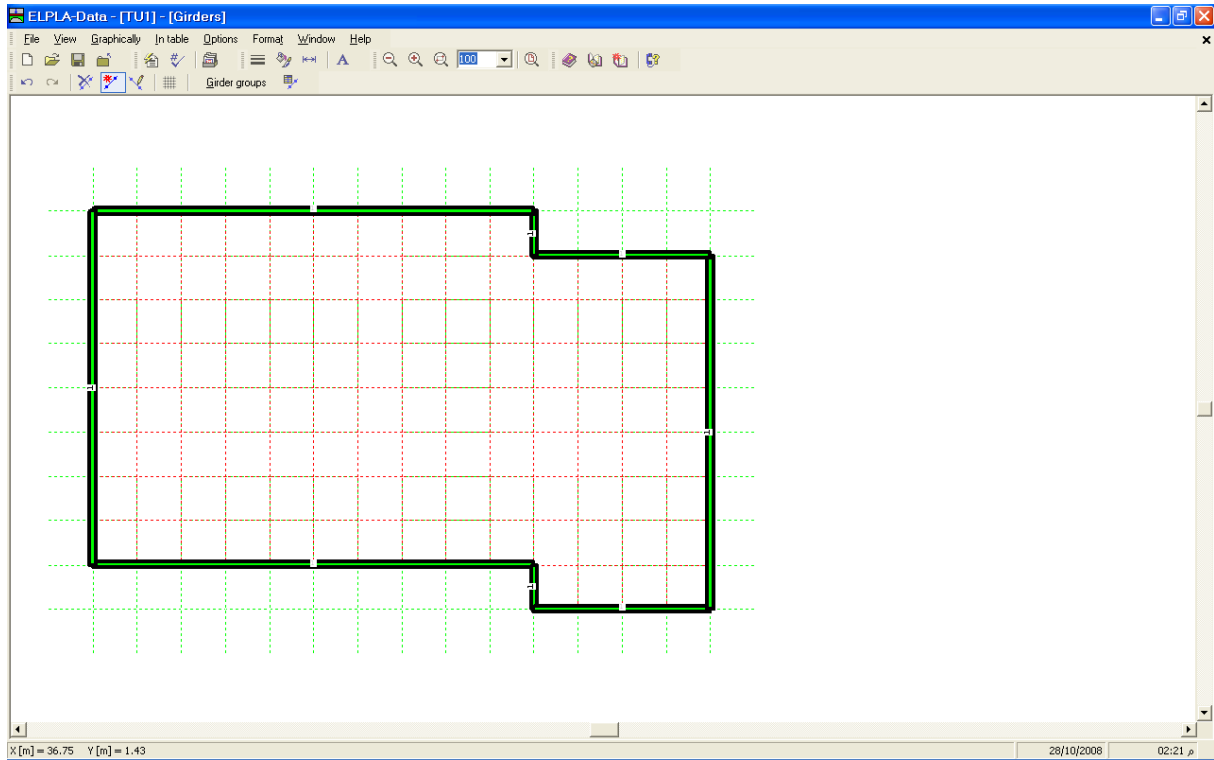

Figure 13-21 Walls on the screen
- Choose "Save girders" command from "File" menu in Figure 13-21 to save the data of girders
- Choose "Close girders" command from "File" menu in Figure 13-21 to close the "Girders" embedded program and to return to the main window of *ELPLA-Data*